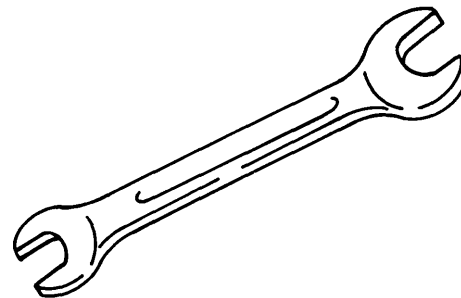
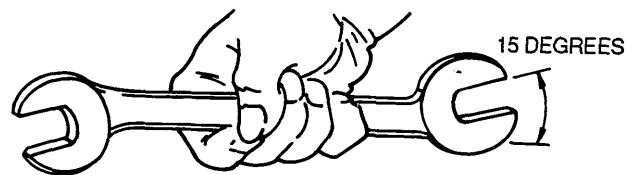

Figure 4-20. Open-End Wrench
Figure 4-21. Open-End Wrench Jaw Offset
(1) Open-end wrenches. Open-end wrenches have two parallel jaws at each end of a bar, as shown in figure 4-20. The jaws of an open-end wrench are usually machined 15 degrees from parallel to the centerline of the wrench, as shown in figure 4-21. The two ends of each wrench fit consecutively-sized nuts such as 3/8- and 7/16-inch, 1/2- and 9/16-inch, and so on.